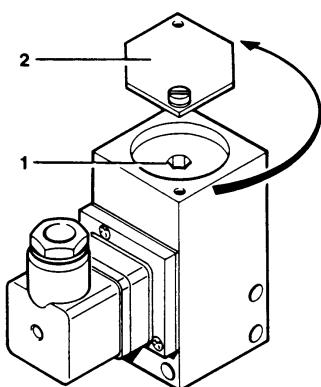

Fig. 49 Final pressure switch
The pressure switch is adjusted to the corresponding pressure according to order. In case of readjustment becoming necessary, open cover (2, Fig. 49). Adjust screw (1) to the required pressure using a 6 mm allen key.